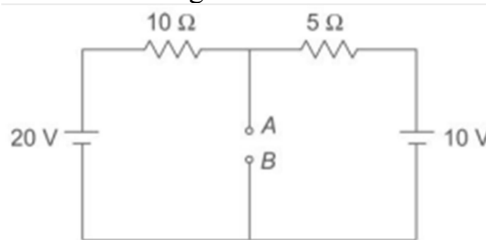

Figure 13
**Example Determine Norton's equivalent circuit at terminals AB for the circuit shown in Fig. 13**